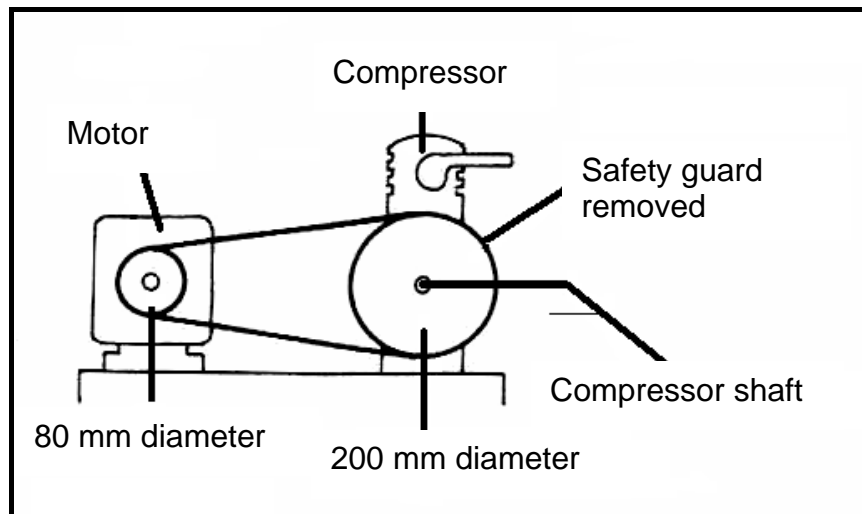

FIGURE 1.6
- 1.16 The air compressor shown in FIGURE 1.6 is driven via a pulley system from a motor running at 300 r/min. What is the rotation frequency of the compressor shaft?